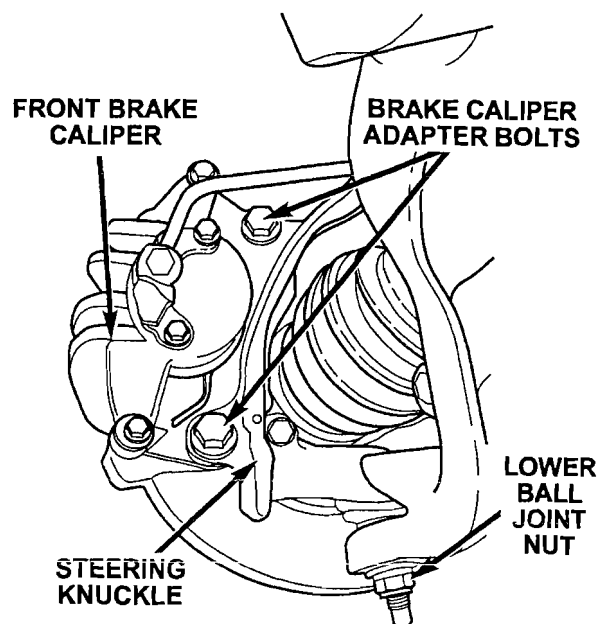

Figure 2
4. Remove the brake caliper adapter bolts and then remove the adapter and brake caliper as an assembly (Figure 2).
9. Remove and discard the lower ball joint nut (Figure 2).
- 29. Install the brake caliper adapter (with the caliper) onto the steering knuckle. Tighten the caliper adapter mounting bolts to 100 ft. lbs. (135 N·m) (Figure 2).